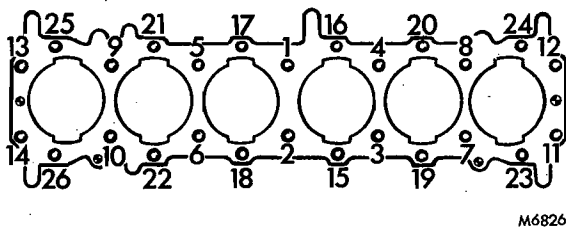

FIG. 6 TIGHTENING SEQUENCE OF CYLINDER BLOCK NUTS
4. Lower cylinder block fully over securing studs to obtain a positive location on dowels situated at each end of crankcase. Fit cylinder block to crankcase nuts, tighten to torque figure quoted in Data using tool LC 139 and a crow foot wrench. Tighten in sequence shown in Fig. 6.